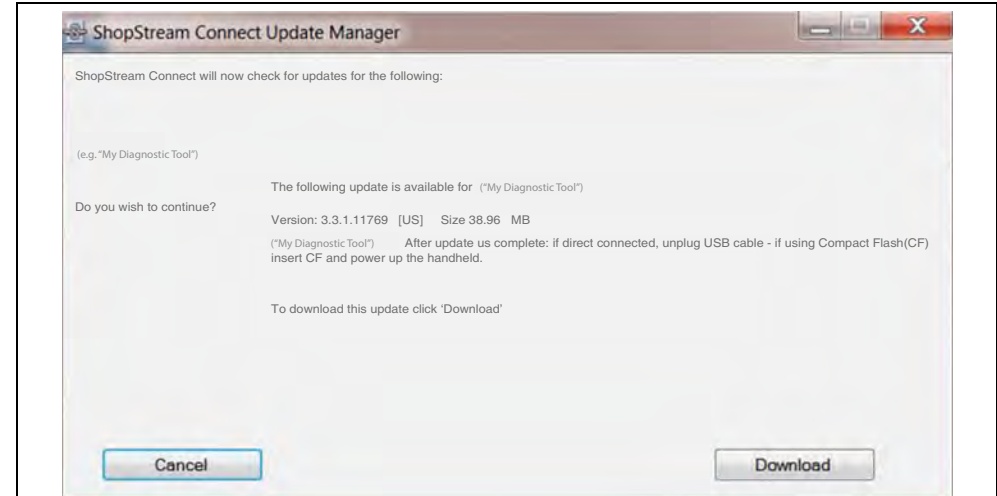

Figure 16-13
2. If service release updates are available, select **Next** to continue, then select **Download** and follow the on-screen instructions to complete the installation (*Figure 16-13*).